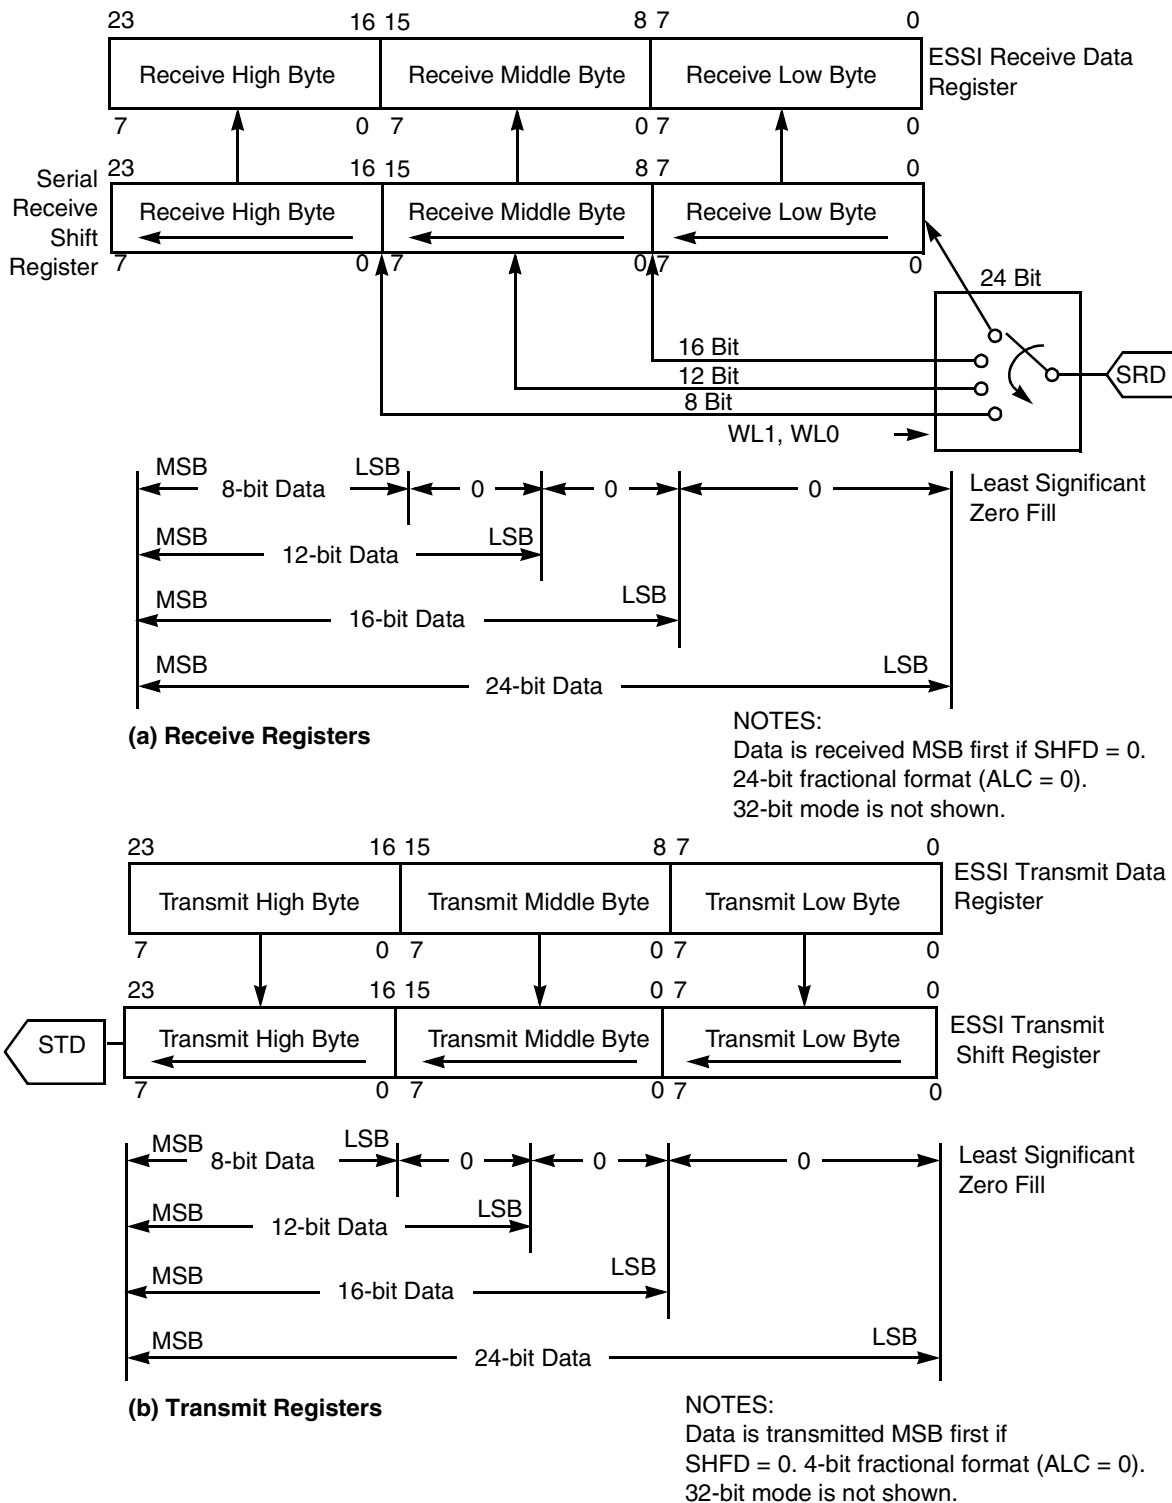

Figure 7-12. ESSI Data Path Programming Model (SHFD = 0)
The 24-bit Receive Shift Register (see **Figure 7-12** and **Figure 7-13**) receives incoming data from the serial receive data signal. The selected (internal/external) bit clock shifts data in when the associated frame sync I/O is asserted. Data is received MSB first if SHFD is cleared and LSB first if SHFD is set. Data transfers to the ESSI Receive Data Register (RX) after 8, 12, 16, 24, or 32 serial clock cycles are counted, depending on the word length control bits in the CRA.
7.5.5 ESSI Receive Data Register (RX)
The Receive Data Register (RX) is a 24-bit read-only register that accepts data from the receive shift register as it becomes full, according to **Figure 7-12** and **Figure 7-13**. The data read is aligned according to the value of the ALC bit. When the ALC bit is cleared, the MSB is bit 23, and the least significant byte is unused. When the ALC bit is set, the MSB is bit 15, and the most significant byte is unused. Unused bits are read as 0. If the associated interrupt is enabled, the DSP is interrupted whenever the RX register becomes full.
The three 24-bit transmit shift registers contain the data being transmitted, as in **Figure 7-12** and **Figure 7-13**. Data is shifted out to the serial transmit data signals by the selected (whether internal or external) bit clock when the associated frame sync I/O is asserted. The word-length control bits in CRA determine the number of bits that must be shifted out before the shift registers are considered empty and can be written again. Depending on the setting of the CRA, the number of bits to be shifted out can be 8, 12, 16, 24, or 32. Transmitted data is aligned according to the value of the ALC bit. When ALC is cleared, the MSB is Bit 23 and the least significant byte is unused. When ALC is set, the MSB is Bit 15 and the most significant byte is